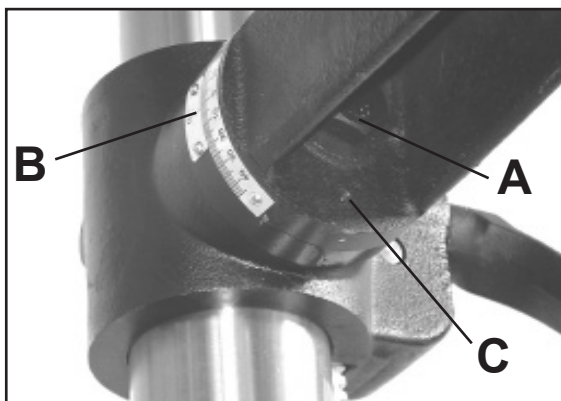
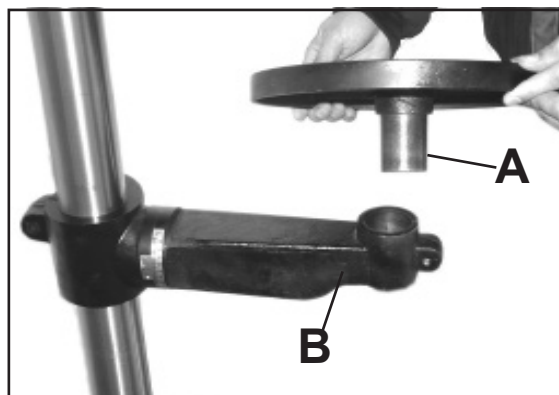

Figure 15
Figure 16
1. Install the arm onto the table support with hex bolt (A-Fig.15) and make sure the scale is on zero position (B-Fig.15). If necessary, adjust the hex socket screw (C-Fig.16) to lever the table 90 degree to the spindle.
2. Insert the table post (A-Fig.16) into the table support bracket (B-Fig.16) as shown.